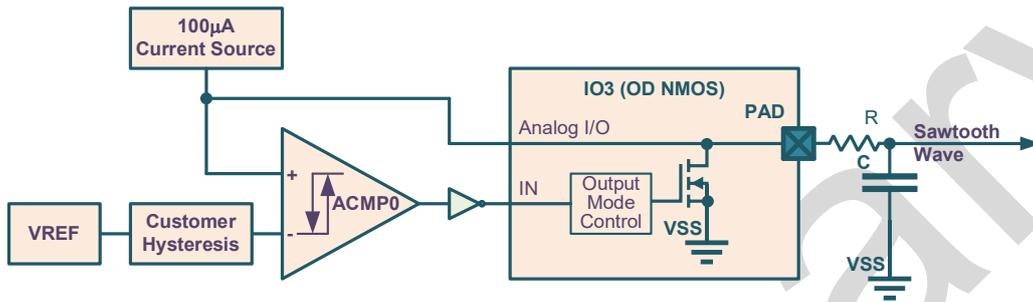
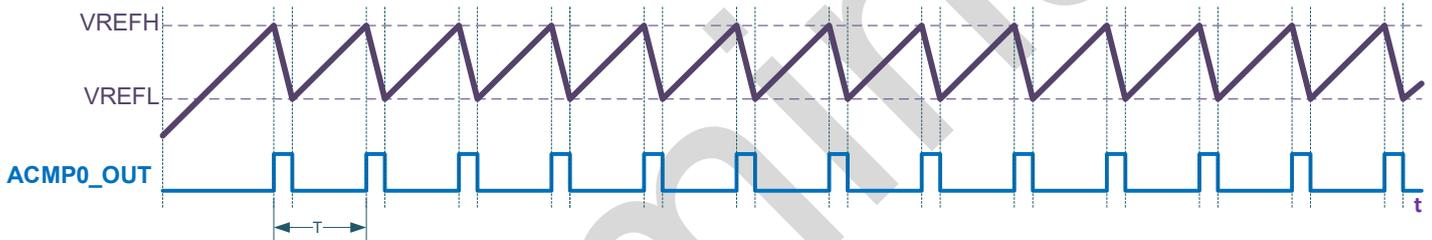

Figure 1.5. Sawtooth-waveform generator
Figure 1.6. Timing Diagrams of sawtooth-waveform generator
The current application example shows customer how to use the analog part of AM1U1412. The design can generate sawtooth waveform (Figure 1.5). There is a possibility to set the value of high (VREFH) and low (VREFL) level of the generated signal with setting customer hysteresis of ACMP0 (Figure 1.6). The period (T) of signal is determined by the capacitance value (C). The design uses 100μA Current Source which directly connected to the pad of IO3. The positive input of ACMP0 is also connected to IO3. At the same time IO3 is configured as digital output with open drain (NMOS). The capacitor voltage increases with this current. When the voltage reaches the VREFH level, ACMP0 switches its output to HIGH. Therefore, NMOS of IO3 is ON and discharges the capacitor (C). After reaching VREFL level, ACMP0 switches its output to LOW. Consequently, IO3 is in HIGH-Z, and capacitor voltage begins increasing. This cycle is repeated again and again (see Figure 1.6).